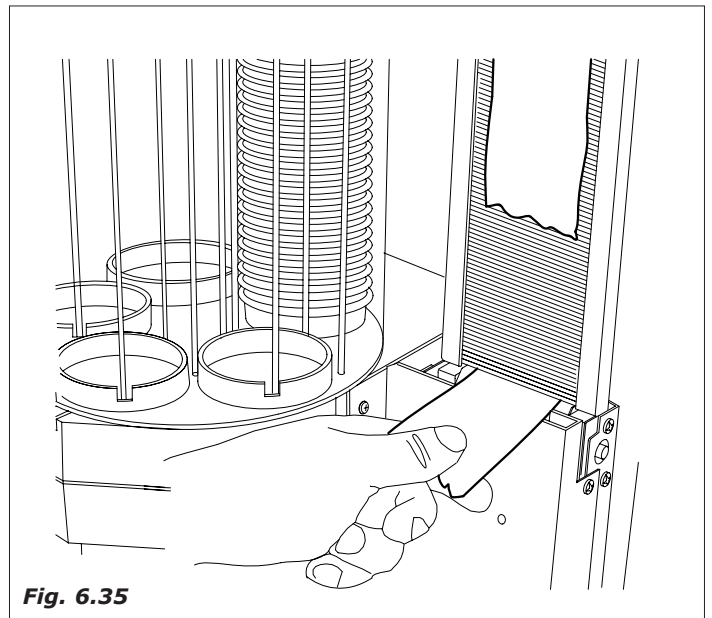

Fig. 6.35
- insert the spoons with their pack wrapping in the column and when they are positioned on the bottom cut and remove the wrapping (Fig. 6.35)